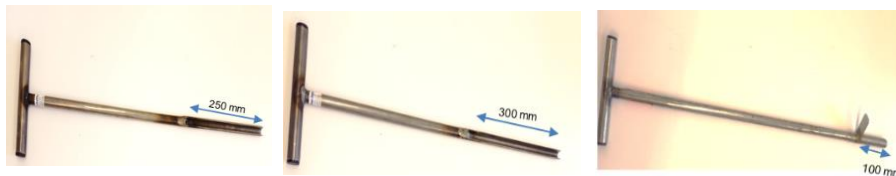

Figure 3: examples of gouge augers
- Use a gouge auger to sample to the recommended depth (see figure 3 and the table on page 3).